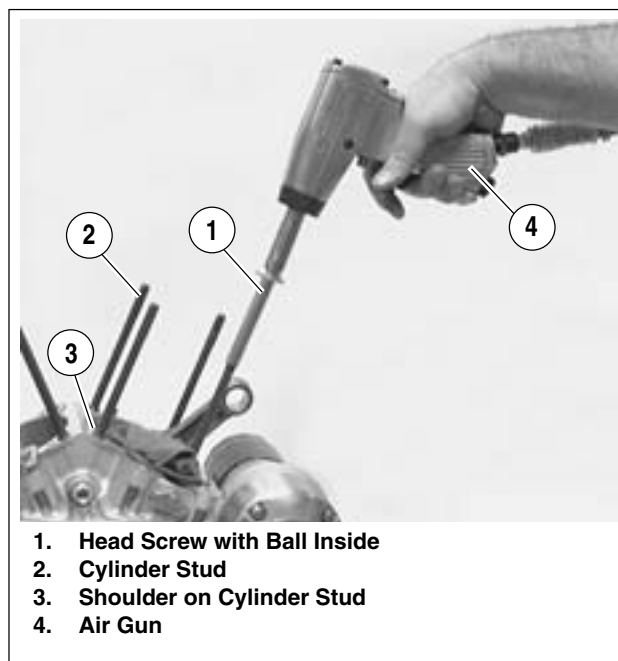

Figure 3-98. Cylinder Studs
13. See Figure 3-98. Install cylinder studs.
- b. Place a steel ball into a head screw (1).
- c. The cylinder studs (2) have a shoulder (3) at the lower end. Place the end of the stud without the shoulder into the head screw.
- d. Install the stud in the crankcase with the shoulder end down. Use an air gun (4) to drive the stud until the shoulder reaches the crankcase.